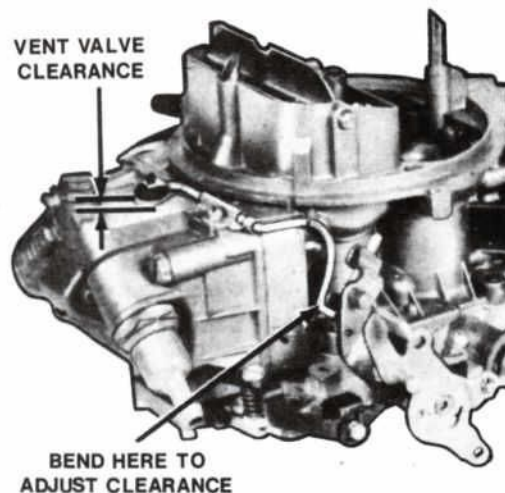

Figure 2—Fuel Bowl Vent Valve Adjustment
10. After the final adjustment of the curb idle rpm and fuel mixture, stop the engine and adjust the carburetor fuel bowl vent valve (Fig. 2) to 0.060"-0.090".